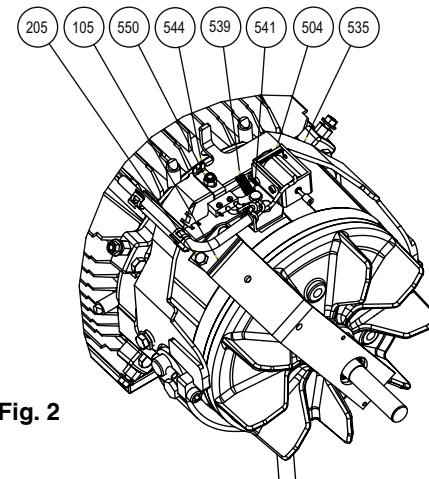

Fig. 2
Follow instructions § 3 and 3.1. Remove the two screws ref. 538 with the two eccentric adjusters ref. 537 and remove the clamp ref. 535 (Fig. 2 and 3).
### 4.2 - Pin clamp (Fig. 2 and 3)